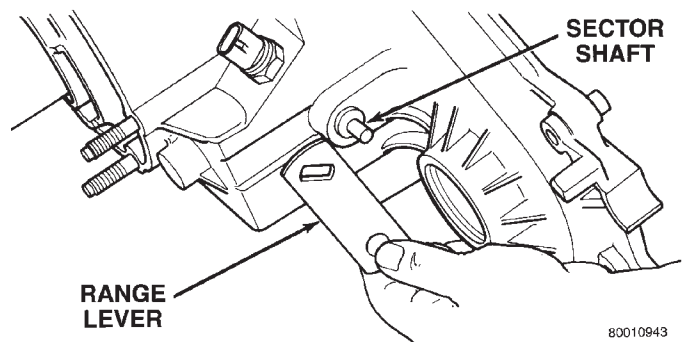

Fig. 22 Range Lever Removal
(3) Remove seal washer from front output shaft. Discard washer as it should not be reused.
(4) Remove nut and washer that attach range lever to sector shaft. Then move sector to neutral position and remove range lever from shaft (Fig. 22).